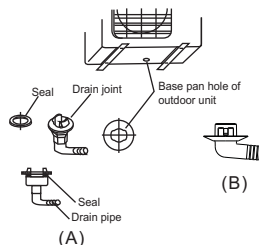

Fig.19
For the drain joint with the seal (Fig.19 (A)), first fit the seal onto the drain joint, then insert the drain joint into the base pan hole of outdoor unit, rotate 90° to securely assemble them. To install drain joint as shown in Fig.19 (B), insert the drain joint into the base pan hole of outdoor unit until it remains fixed with a clicking sound. Connecting the drain joint with an extension drain hose (Locally purchased), in case of the water draining off the outdoor unit during the heating mode.